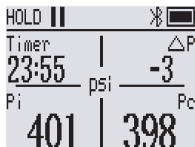

Figure 3 Pressure hold start interface
① Short press any button to turn off the prompt sound
5. **Start leak test** : click after the device reaches  the pressure warning value to start the leak test , and the timer starts counting down (Figure 3) .